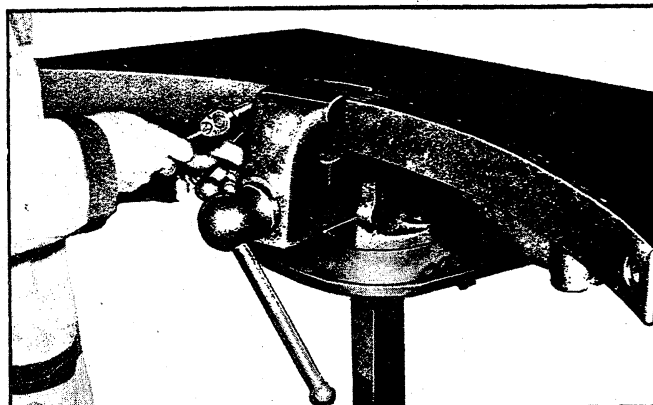

Fig. 60—Removing Center Bolt (Corvette)
1. Clamp spring center section in vise and remove center bolt (fig. 60).